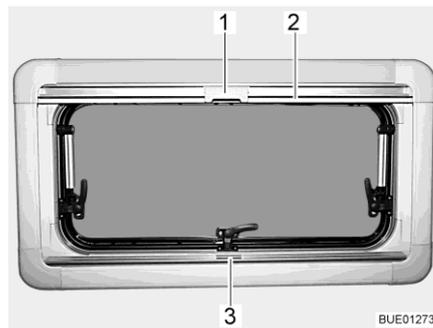

Fig. 75 Hinged window
- Grip the Roman shade in the centre of the holding bar (Fig. 75,3), pull it from the bottom to the top and then release it at the desired height. The Roman shade will stay at this height.
- Pull the insect screen down using the holding bar (Fig. 75,2), until it touches the holding bar of the Roman shade (Fig. 75,3).
- Clip the catch (Fig. 75,1) on the insect screen into the handle of the Roman shade.
- Push the catch (Fig. 75,1) on the insect screen inwards.
- Move the insect screen back slowly on the holding bar (Fig. 75,2).